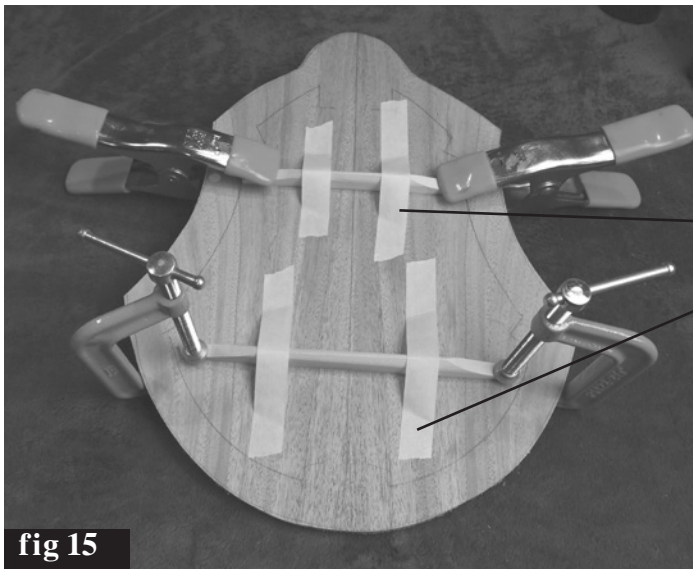

fig 15
**HINT:** Use masking tape to hold the braces in place while you put a clamp at each end (Fig 15). This will produce an arched back because of the curve in the braces. Double-check the middle to see if you might need to add some weight in the center to achieve a firm glue joint along the entire brace. You can prop the back on a block of wood to support the middle, and then add weights to the center of the braces, if necessary.